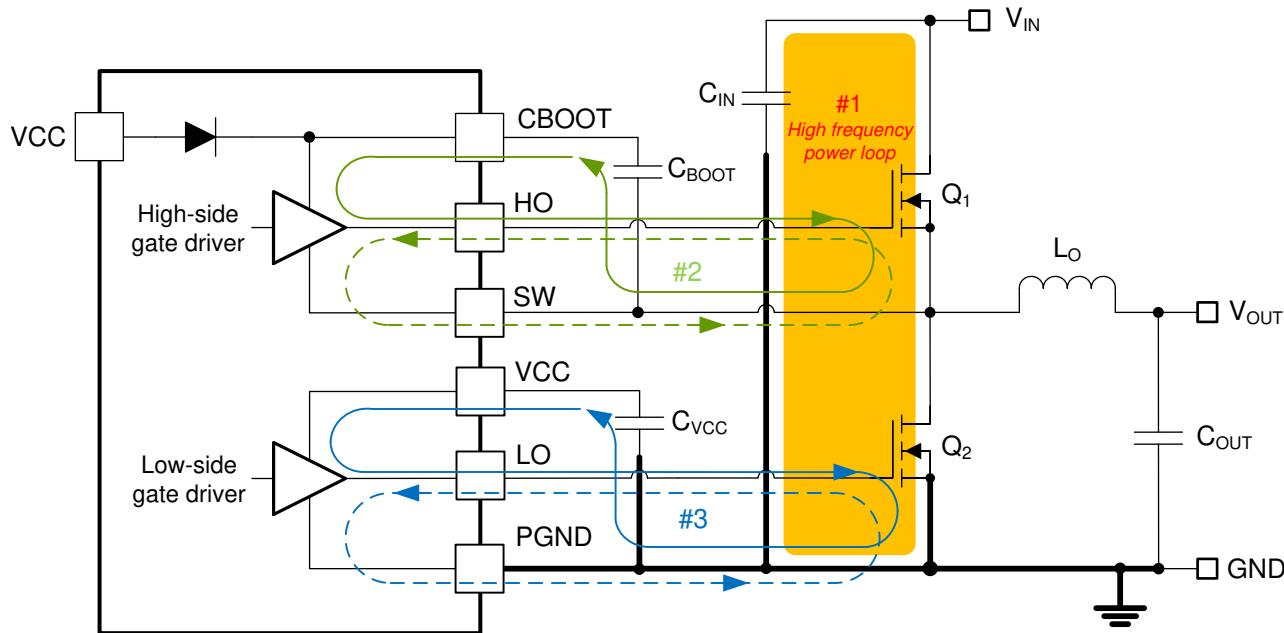

图 8-46. DC/DC Regulator Ground System With Power Stage and Gate Drive Circuit Switching Loops
Proper PCB design and layout is important in a high-current, fast-switching circuit (with high current and voltage slew rates) to achieve a robust and reliable design. As expected, certain issues must be considered before designing a PCB layout using the LM5148-Q1. The high-frequency power loop of a buck regulator power stage is denoted by loop 1 in the shaded area of 図 8-46. The topological architecture of a buck regulator means that particularly high di/dt current flows in the components of loop 1, and reducing the parasitic inductance of this loop by minimizing the effective loop area becomes mandatory. Also important are the gate drive loops of the high-side and low-side MOSFETs, denoted by 2 and 3, respectively, in 図 8-46.
- Loop 1: The most important loop area to minimize is the path from the input capacitor or capacitors through the high- and low-side MOSFETs, and back to the capacitor or capacitors through the ground connection. Connect the input capacitor or capacitors negative terminal close to the source of the low-side MOSFET (at ground). Similarly, connect the input capacitor or capacitors positive terminal close to the drain of the high-side MOSFET (at VIN). Refer to loop 1 of 图 8-46.
- The SW pin connects to the switch node of the power conversion stage and acts as the return path for the high-side gate driver. The parasitic inductance inherent to loop 1 in 图 8-46 and the output capacitance (C_{oss}) of both power MOSFETs form a resonant circuit that induces high frequency (greater than 50 MHz) ringing at the SW node. The voltage peak of this ringing, if not controlled, can be significantly higher than the input voltage. Make sure that the peak ringing amplitude does not exceed the absolute maximum rating limit for the SW pin. In many cases, a series resistor and capacitor snubber network connected from the SW node to GND damps the ringing and decreases the peak amplitude. Provide provisions for snubber network
- Loop 2: high-side MOSFET, Q_1 . During the high-side MOSFET turn-on, high current flows from the bootstrap (boot) capacitor through the gate driver and high-side MOSFET, and back to the negative terminal of the boot capacitor through the SW connection. Conversely, to turn off the high-side MOSFET, high current flows from the gate of the high-side MOSFET through the gate driver and SW, and back to the source of the high-side MOSFET through the SW trace. Refer to loop 2 of 图 8-46.
- Loop 3: low-side MOSFET, Q_2 . During the low-side MOSFET turn-on, high current flows from the VCC decoupling capacitor through the gate driver and low-side MOSFET, and back to the negative terminal of the capacitor through ground. Conversely, to turn off the low-side MOSFET, high current flows from the gate of the low-side MOSFET through the gate driver and GND, and back to the source of the low-side MOSFET through ground. Refer to loop 3 of 图 8-46.